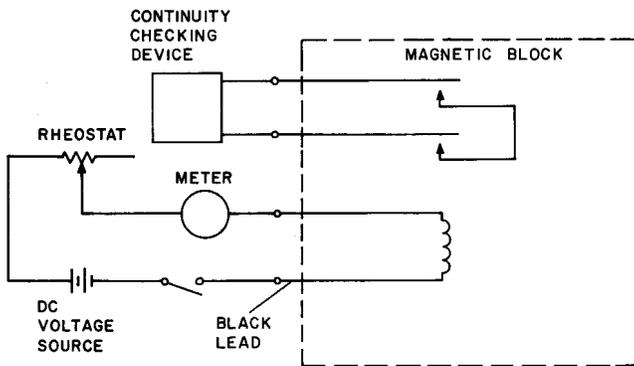

Fig. 18—Indicating Circuit
- (b) Using the indicating circuit (Fig. 18), or its equivalent, each block, P-44N102 or P-44N103, shall be demagnetized until both switch elements (combined) open at 6 ± 1.5 mA and close at ≥ 1 mA but < 4.5 mA.
- (c) Using the indicating circuit (Fig. 18), verify that each block, P-44N100, or 101 switch elements close between 5 and 7 mA and open at 2.4 ± 0.5 mA.